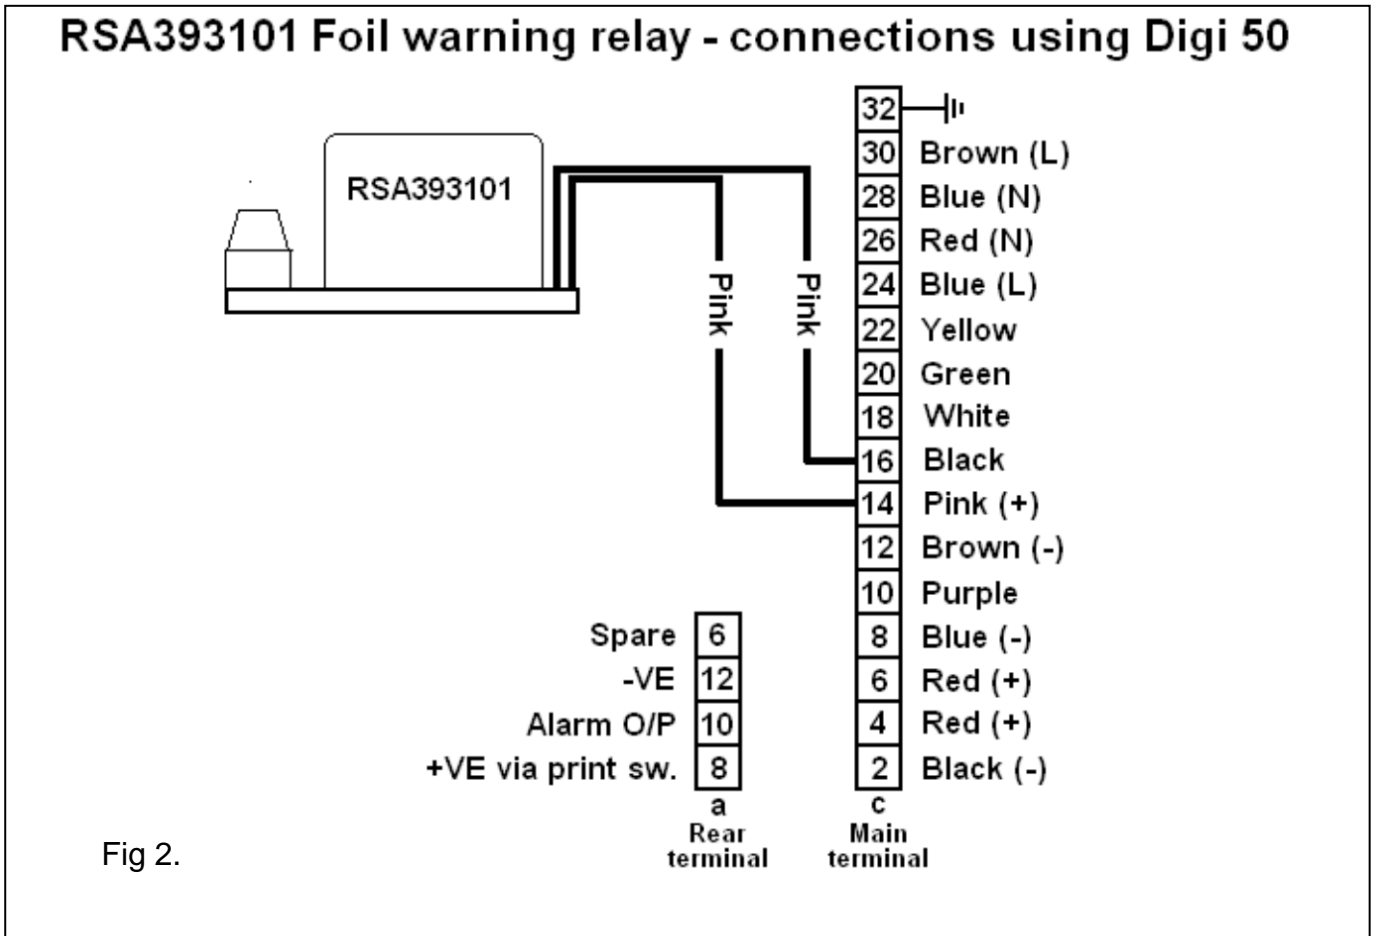

Fig 2.
3. Check if relay **RSA393101** is fitted inside control box. If control is **NOT** operating a Printmaster, (See Fig 2.) for rewiring detail.